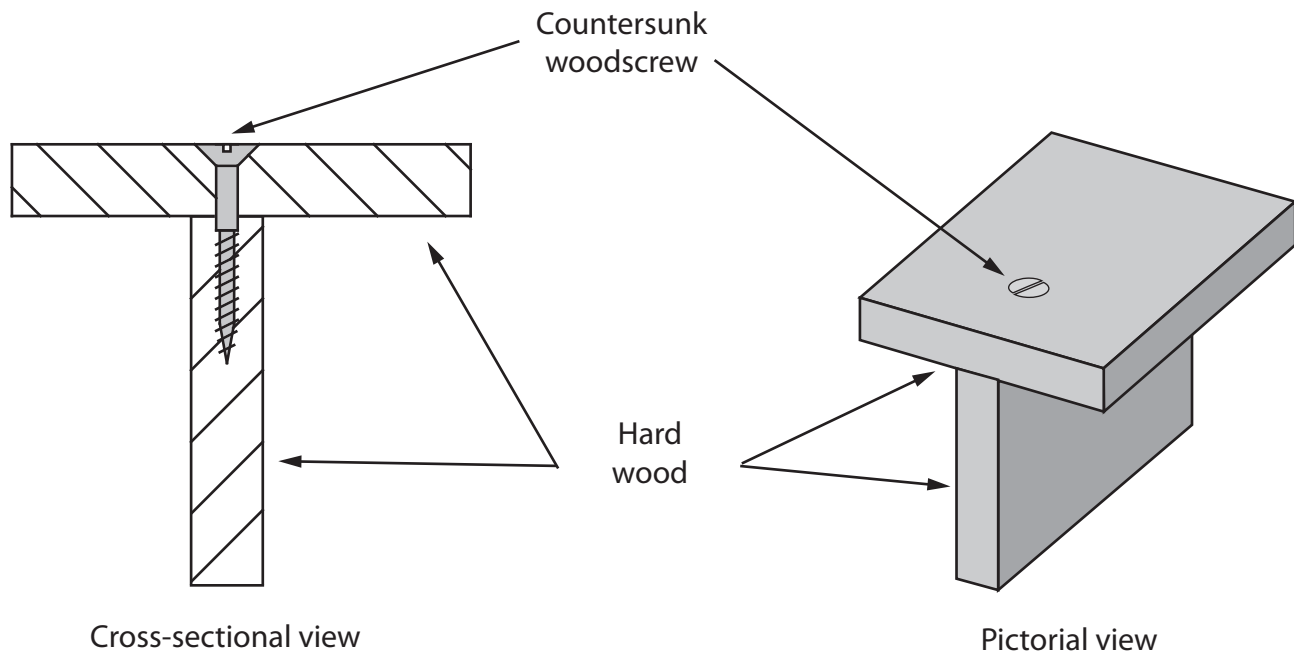

Figure 4
- 5 (a) Figure 4 shows two pieces of hardwood that have been joined using a countersunk wood screw.